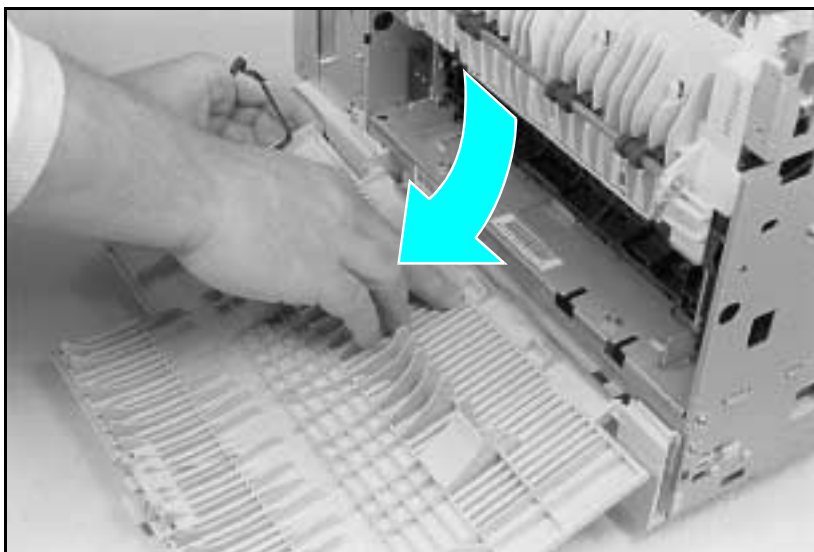

Figure 6-7a Releasing the Door Hinge (LaserJet 4/5)
- 4 LaserJet 4/5:** Flex the Rear Door to release it from its hinges. Press the middle of the door while lifting either side (Figure 6-7a).